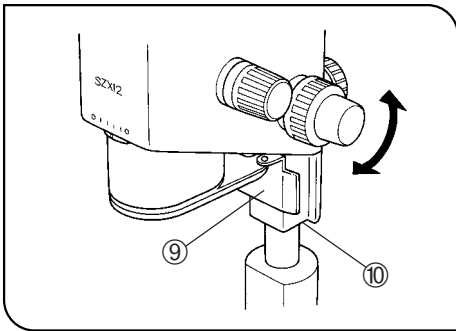

Fig. 32
★ Before installing the focusing assembly on the pillar, adjust the coarse and fine focus adjustment knobs so that the hand guard ⑨ does not protrude from the lower end of the focusing assembly ⑩. (Fig. 32)